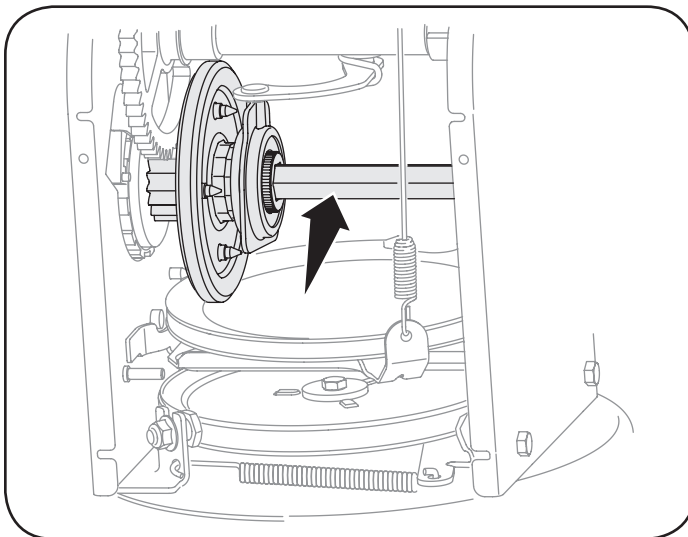

Figure 57
4. Apply a light coating of anti-seize to the hex shaft. See Figure 57.